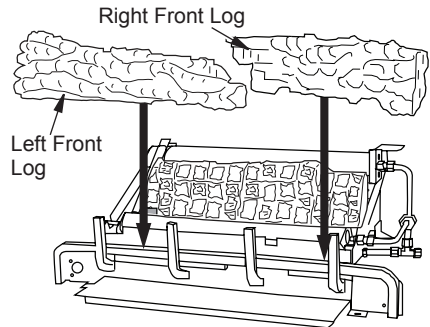

Figure 28 - Installing Left/Right Front Logs
2. Place front left and front right logs as shown in Figure 28.